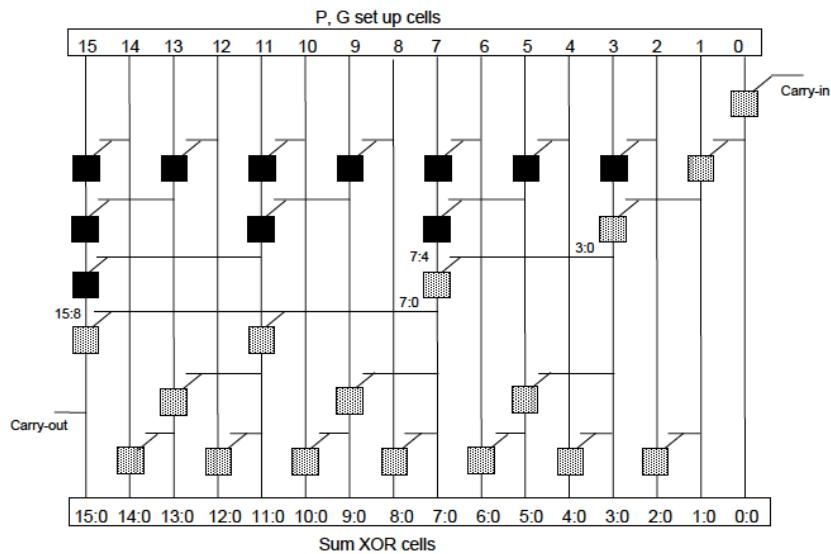
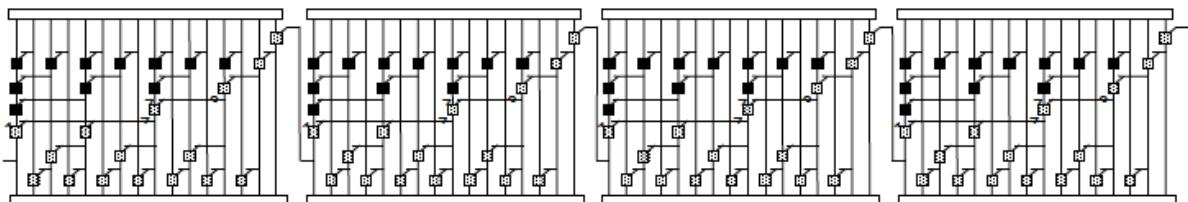

Figure 6: A 16-bit Brent-Kung prefix adder cell with carry-in signal.
Figure 7: A 64-bit adder constructed from four cascaded 16-bit Brent-Kung adders.
Assume that you have a 16-bit Brent-Kung adder available in your cell library; see Figure 6. The 16-bit Brent-Kung adder module is characterized by its set-up delay,  $t_{pg}$ , its summation delay,  $t_{XOR}$ , and the delay of the PG cells (also called dot-operator cells) in the internal prefix adder tree,  $t_{AO}$ . You now intend to construct a 64-bit adder by cascading four such Brent-Kung adders as shown in Figure 7.
b) What if you wanted to also calculate the block propagate signal for the Brent-Kung 16-bit adder. What would you need to modify in the 16-bit adder cell shown in Figure 6? The figure is repeated on a tear-off sheet at the end of the exam - indicate your proposed changes on that sheet and hand it in with your solutions. (2 p)